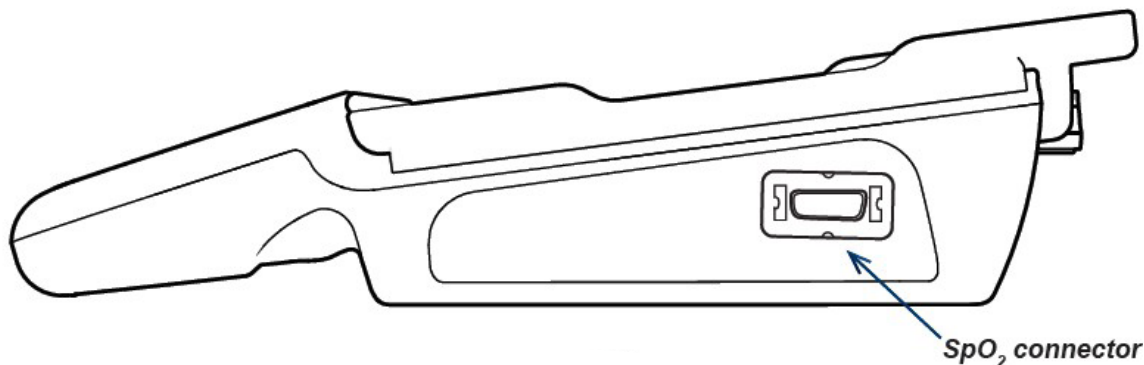

Figure 3
- A) Attach the SpO₂ patient/extension cable to the SpO₂ connector on the right side of the device (see Figure 3).